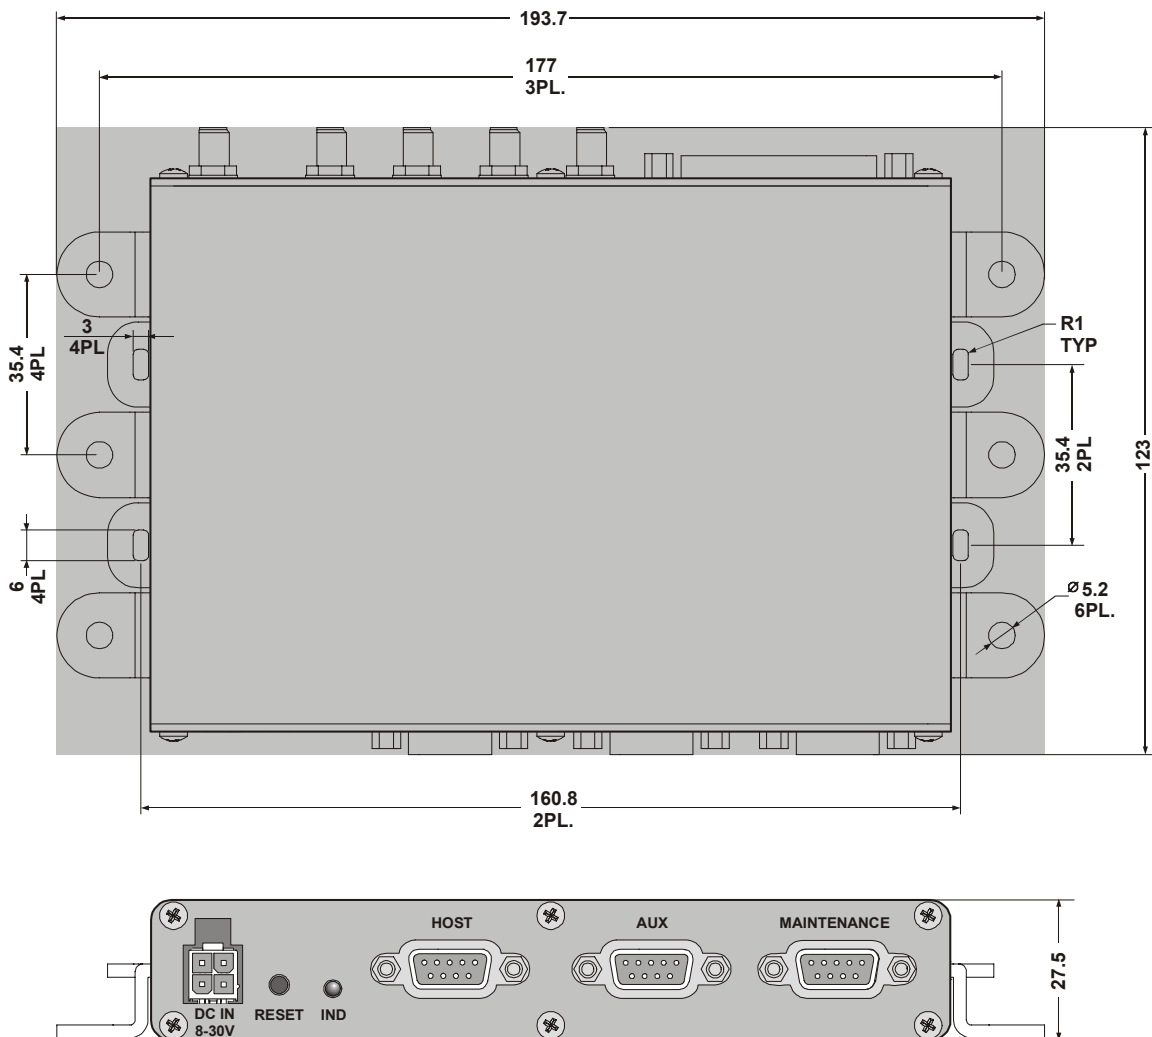

Figure 2-2: FP-300RA Mechanical Data
Figure 2-2 provides mechanical data for planning the installation of an FP-300RA unit.
2. Mark the 6 holes to be drilled in accordance with the information appearing in Figure 2-2, and then drill using an appropriate drill tip.